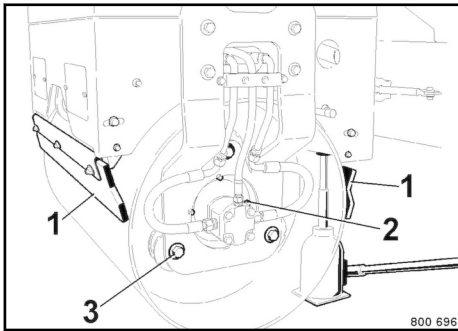
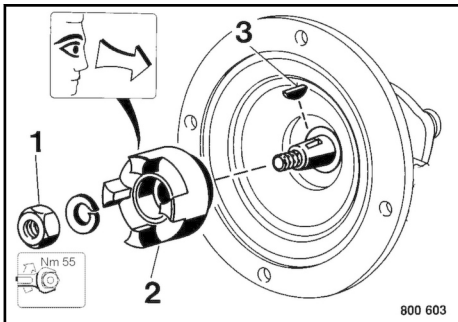

Fig. 210
Fig. 211
3. Lift the front frame up ↪ Fig. 210 and support it safely.
4. Unhook the springs to relieve the scrapers (1).
5. Unscrew the fastening screws (2) and remove the vibration motor with its flange.
6. Check coupling hub 2 ↪ Fig. 211 for wear.
7. If necessary, unscrew the hexagon nut (1) and pull off the coupling hub (2) with a puller.
8. Remove the feather key (3).
9. Unscrew the fastening nuts (3) ↪ Fig. 210 for support legs – rubber buffers.